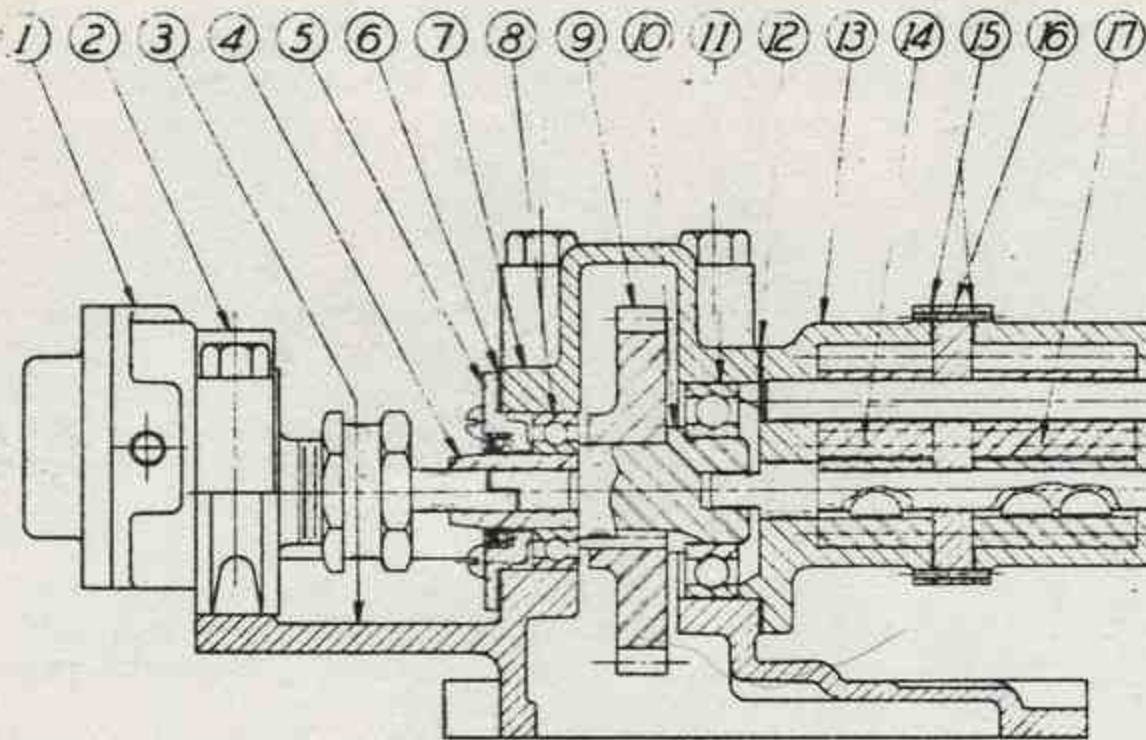

FIG. T-1
The rotary pump group, illustrated in Fig. T-1, is built into one of the center frame doors (3). It includes the lubricating oil pressure and sump pumps (14) and (17) and the fuel transfer pump (1), together with drive shaft (10) and gear (9), which meshes with a driving gear on the cam shaft. The door is positioned and doweled on the centerframe for .004" gear backlash. The door gasket should be  $1/32$ " thick to maintain this adjustment.
oil seal, assemble in the cover as shown in Fig. T-1.